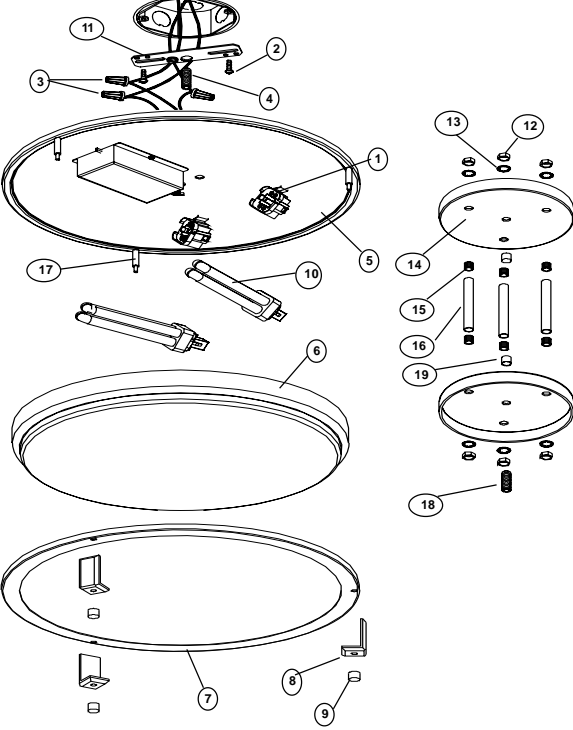

Figure 1
2. Disassemble the fixture by unscrewing the three Finial Caps (9) and removing the L-Angles (8), Metal Ring (7) and Diffuser (6). **See Fig. 1.**
3. Attach Crossbar (11) to junction box using Screws (2).
4. Tread the Nipple (4) into the center hole of the crossbar about a 1/4".
5. Pre-assemble Spacer Pipes (16) by threading a Nipple (15) into both ends of each pipe about 1/4".
6. Attach each pipe assembly into the outer holes of a Canopy (14) by placing a Lock Washer (13) on nipple and securing with Hexnut (12). Repeat on opposite end. **See Fig. 1.**
7. Gather the black and white wires together and feed them through one of the spacer pipes. Feed the green ground wire through a separate spacer pipe until the lower canopy rests on the back of Pan (5).
8. Thread a Finial Cap (19) onto Nipple (18) then insert into center hole of canopy and pan securing with lock washer and hexnut.
9. With the power turned off hold the fixture near junction box and connect the green or bare copper supply wire to green fixture wire using Wirenuts (3). If house wiring does not include a ground wire, consult your local electrical code for approved rounding methods).